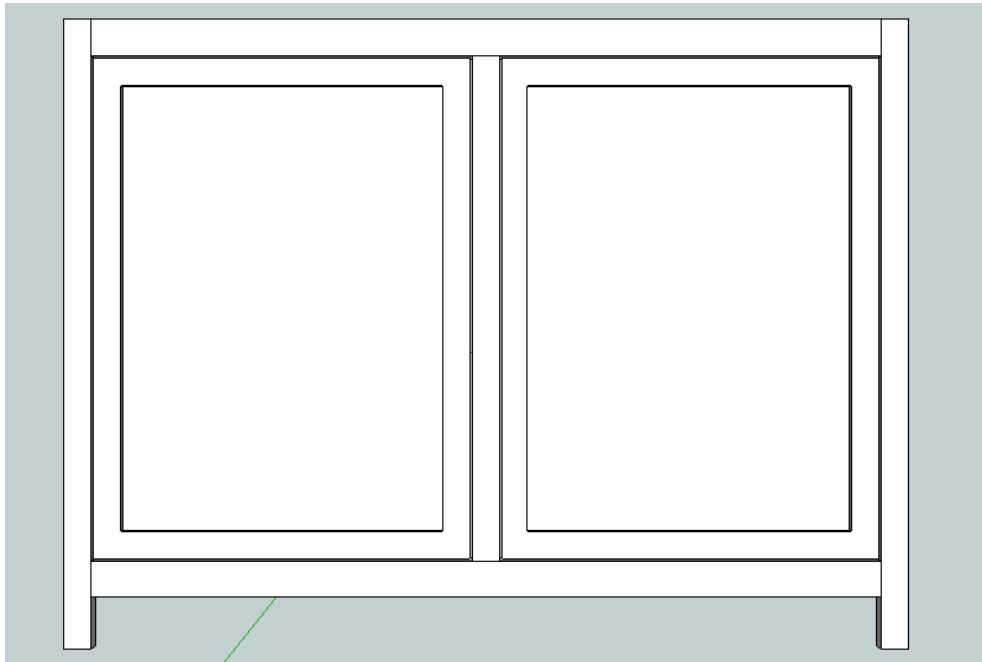

Figure 15: Doors Test Fit Inside of Face Frame
4. Assemble the door panel without glue by inserting the door panel into the rail groove and then the door and rails into the stiles. The side of the door panel with the rabbet should be facing the back of the door. All joints should be tight. Test fit the dry door assembly into the door opening. It helps if the hinge is inserted into the door gap to allow for a true test fit. The door should have a consistent gap all the way around it. Make adjustments as necessary. See Figure 15.